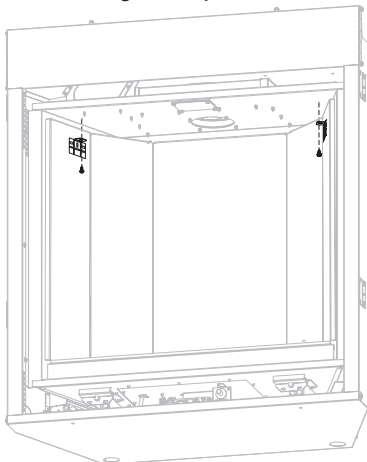

Figure 8
5. Remove the two screws securing the liner brackets to the firebox as shown in Figure 8. (If liner is installed)
21. Replace liner and bracket if removed in steps 5 and 6. **See Figures 8 & 9.**